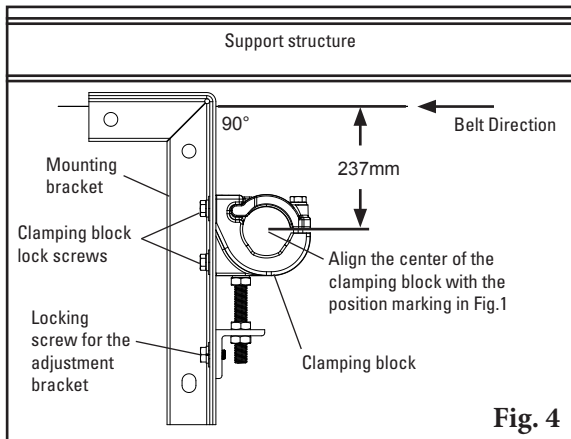

Fig. 4
4. **Clamp the mounting bracket into position** (use screw clamps). Move the clamp block to align the center of the block with a point 237mm below the belt (Fig. 4). To move the clamp blocks, if necessary, loosen the clamp block lock bolts and the adjusting bracket lock bolt and turn the adjusting bolt jam nuts. The bracket can now be bolted or welded in place. Locate and install bracket on the opposite side of belt in alignment with the first bracket.